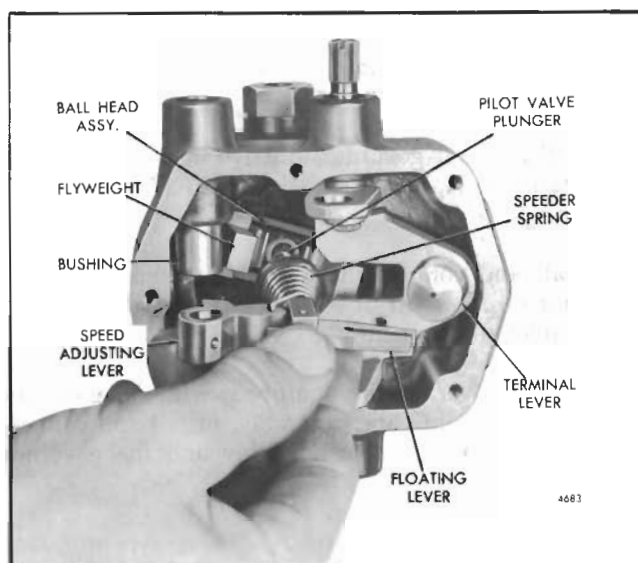
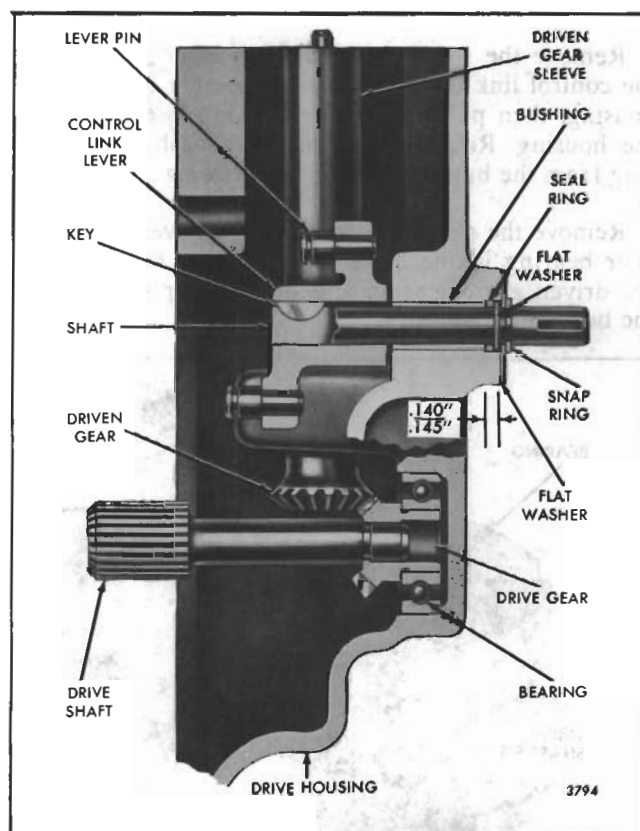

Fig. 16 - Installing Speed Adjusting Lever, Floating Lever, Speeder Spring and Pilot Valve Plunger Assembly
Fig. 1 - Governor Drive Assembly
18. Lubricate the pilot valve plunger thrust bearing with engine oil and place it over the end of the pilot valve plunger with the smallest, outside diameter, bearing race next to the spring seat (Fig. 1).
19. Lubricate the pilot valve plunger with engine oil. Then hold the thrust bearing against the spring seat and insert the assembly in the governor housing with the speed adjusting lever facing the two bushings in the housing (Fig. 16). Start the pilot valve plunger straight into the bore of the ball head and push the assembly in until the speed adjusting lever is in position between the two bushings and the thrust bearing is resting on the lip of the flyweights (Fig. 1).
20. Install the speed adjusting lever shaft (26) and roll (spring) pin (15) in the governor housing as follows:
22. If removed, thread the lock nut on the maximum speed adjusting screw (35). Place the copper washer on the adjusting screw, then thread the screw approximately halfway in the governor housing (Fig. 1).
24. Affix a new governor subcap gasket (56) to the top of the governor housing.
25. Place the governor subcap (64) on top of the gasket and housing with the fuel rod spring opening in the subcap facing the maximum speed adjusting screw side of the governor housing (Fig. 1). Install the two subcap screws and lock washers and tighten them securely.
26. Refer to Figs. 1, 7 and 12 and install the spring guide rod (77), spring guide rod seat (76), fuel rod spring (21), spring pad cover (80) and the load limit adjusting screw (8) in the governor subcap as follows:
- d. Affix a new gasket (79) to the flat face of the spring pad cover (80).
The governor is driven by one of the blower rotors through a horizontal drive shaft and drive (bevel) gear and an integral vertical driven (bevel) gear (Fig. 1). Each gear is mounted on a ball bearing and is contained in a drive housing that also serves as the blower front cover.
Refer to Figs. 1 and 2 and disassemble the governor drive assembly as follows:
Inspect the control link operating shaft and its bushing in the governor drive housing for wear. If a new bushing is to be installed, press it in the drive housing so it will be .140 " to .145 " below the outside face of the housing to provide space for the seal ring (Fig. 1).
Refer to Figs. 1 and 6 for the location of the various parts and assemble the governor drive as outlined below:
2. Lubricate the governor drive shaft bearing with engine oil, then insert the drive shaft, drive gear and bearing assembly straight into the bearing bore in the drive housing (Fig. 1).
- a. Lubricate the control link lever shaft with engine oil, then slide the shaft through the bushing from the inner side of the housing (Fig. 1).